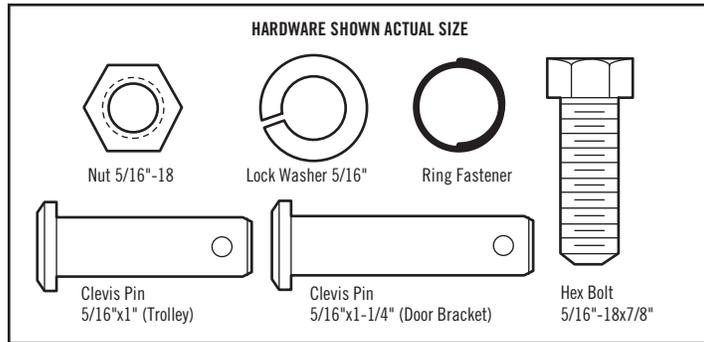

Figure 5
IMPORTANT: The groove on the straight door arm **MUST** face away from the curved door arm (Figure 5).
- Slide a 1/4"-20 x 1/2" carriage bolt head into the slot on each sensor. Use wing nuts to fasten sensors to brackets, with lenses pointing toward each other across the door. Be sure the lens is not obstructed by a bracket extension (Figure 5).